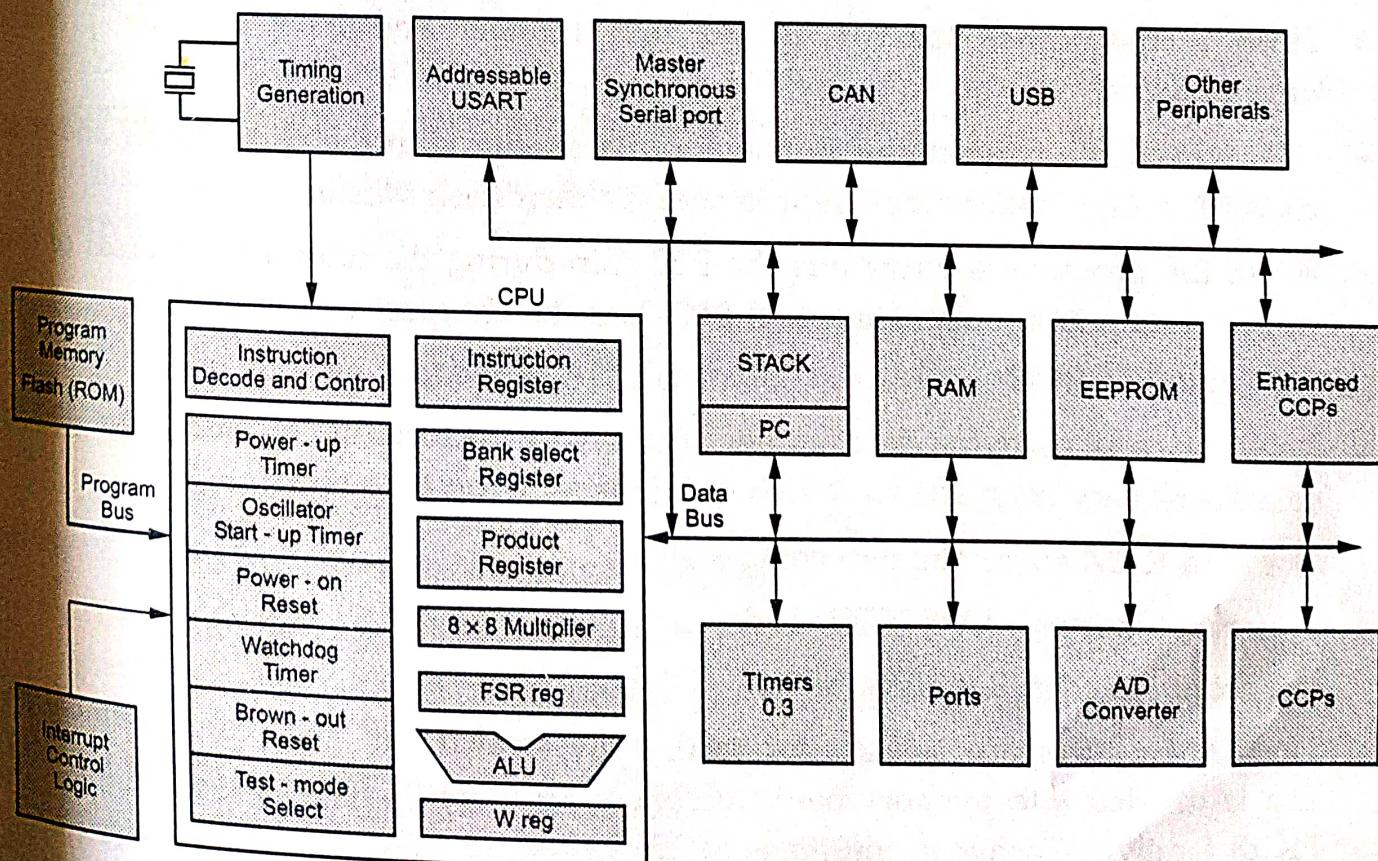

Fig. 2.2.1
- Fig. 2.2.1 shows the simplified block diagram of PIC18 series microcontrollers.